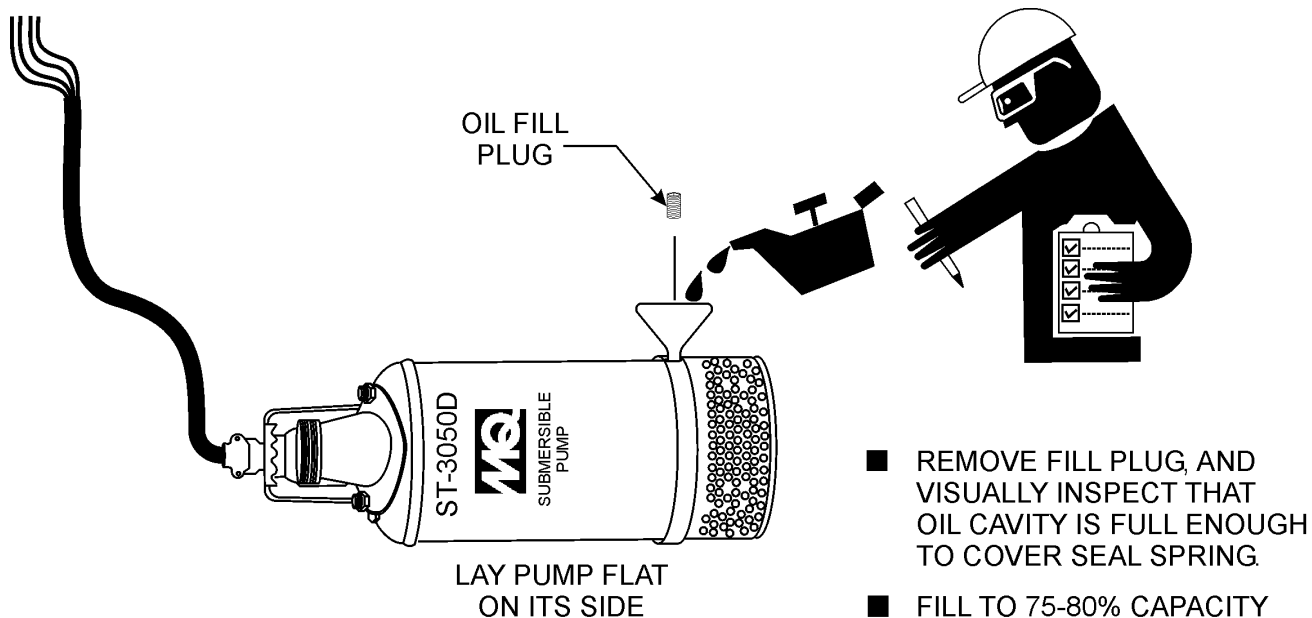

Figure 19. Checking Hydraulic Oil
1. Lay the pump (Figure 19) on its side with the oil plug facing upwards.